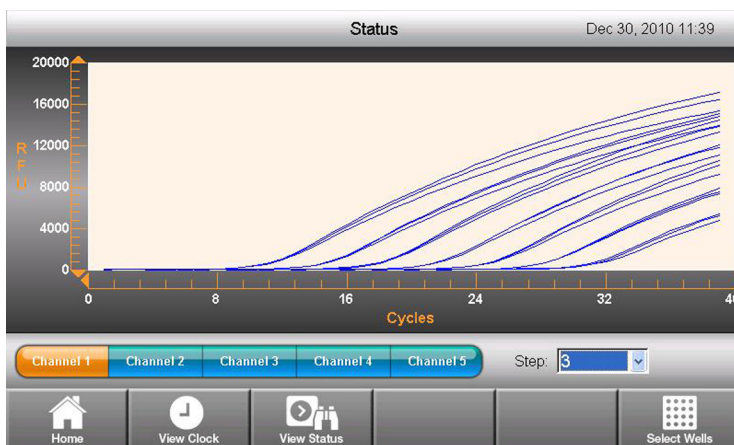

Figure 44. View real-time data traces on the Curves screen.
- View Curves.** Touch the **View Curves** button to display the real-time data traces (Figure 44). If data are being collected from multiple channels, select the channel to display using the **Channel** buttons. Data from only one channel can be displayed on